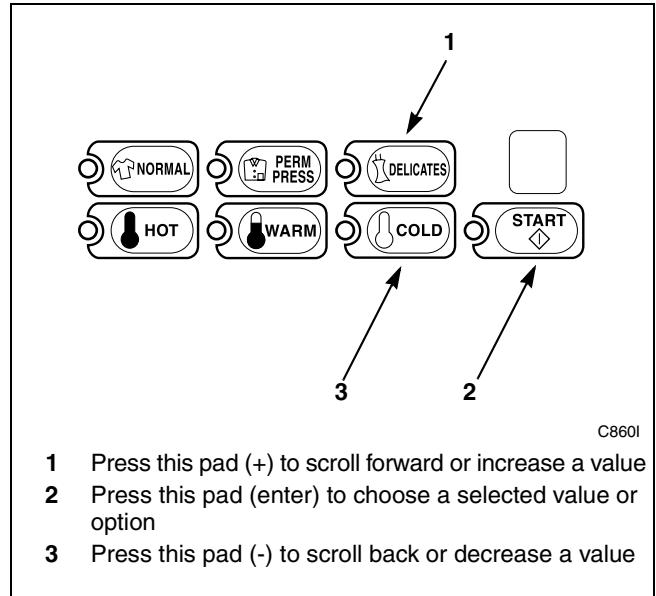

Figure 134
5. Press the DELICATES (+) or the COLD (-) keypad to increase or decrease the current number of minutes displayed in the VFD to the desired number of minutes. Refer to *Figure 134*.
**NOTE: The Normal Extra Rinse Agitate Time can be set from zero (0) to 15 minutes.**